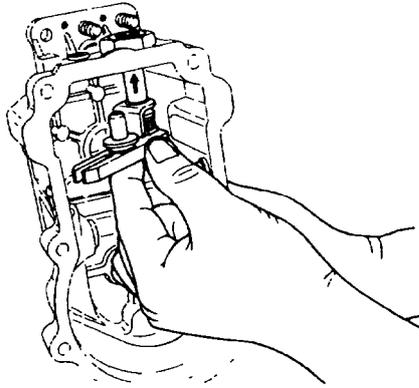

Figure 107 Installing the Control Lever Shaft Assembly
- m.** Lubricate the sealing lip on the oil seal with grease and carefully install the control lever shaft assembly into the bore at the top of the governor cover (Figure 107).